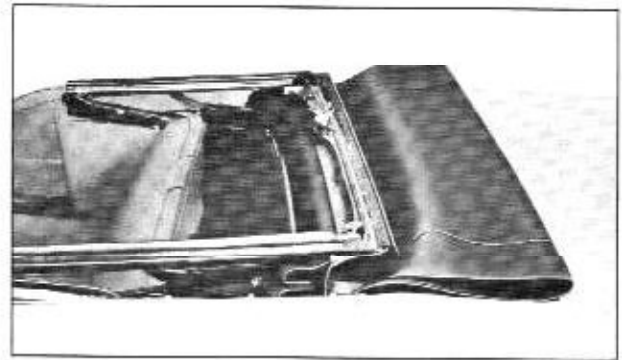

Fig. 15-73 Top Folded
2. Smooth out top material on body panel. (Fig. 15-73)